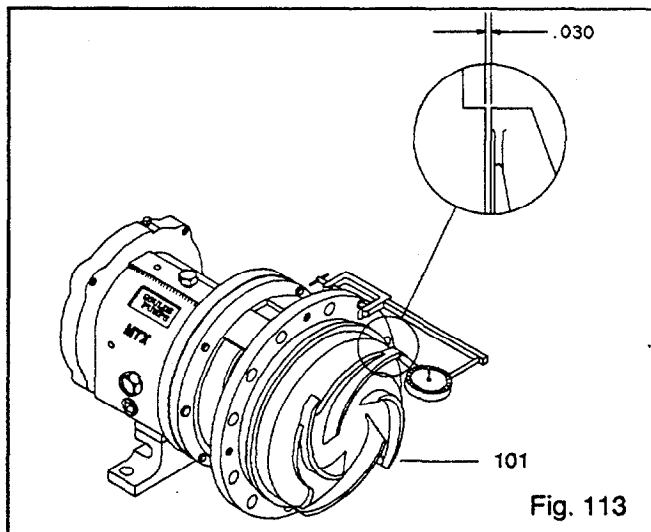

Fig. 113
- Check impeller (101) runout. Check vane tip to vane tip. If total indicator reading is greater than 0.005 in. (.13 mm), determine cause and correct before proceeding (Fig. 113).